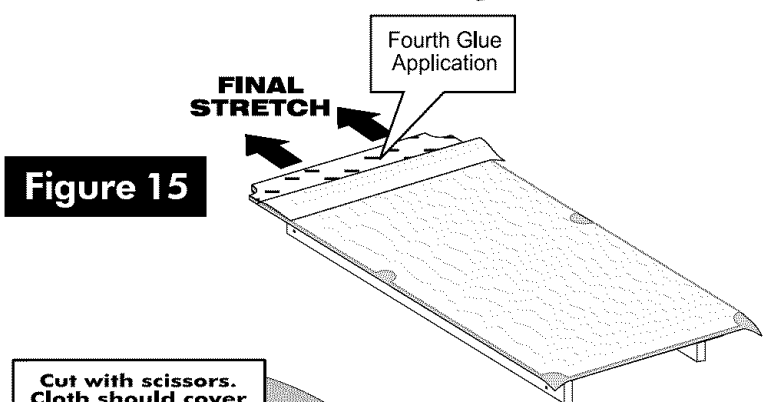

Figure 15
30. Fold cloth away from other end to expose slate/slatron for your fourth glue application. (See figure 15) Apply cement to this end in the same manner. Allow cement to become tacky, wait at least one minute.
31. Make a final stretch along the length of and over the edge of the table, stretch hard enough to work out all wrinkles. (See figure 15) If cloth is not smooth, lift and re-apply. **NOTE:** Rubbing fingers lightly across cloth should not make cloth move.